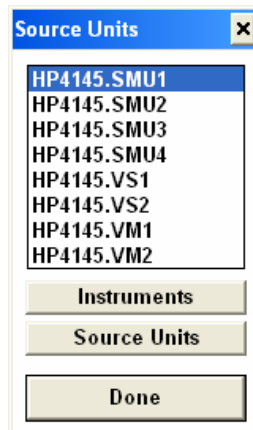

Fig. 4: Available connections from the parameter analyzer
- We now need to add stimuli to each end of the resistor. To do this, click on the **Source Units** button to bring up the **Source Units** dialog box (Fig. 4). The **SMUs** (Sensing Measuring Units) provide voltage or current stimuli, and can also measure the voltage/or current through them. In addition, if you need them, the **VS** terminals are voltage sources, and the **VM** terminals are voltmeters.